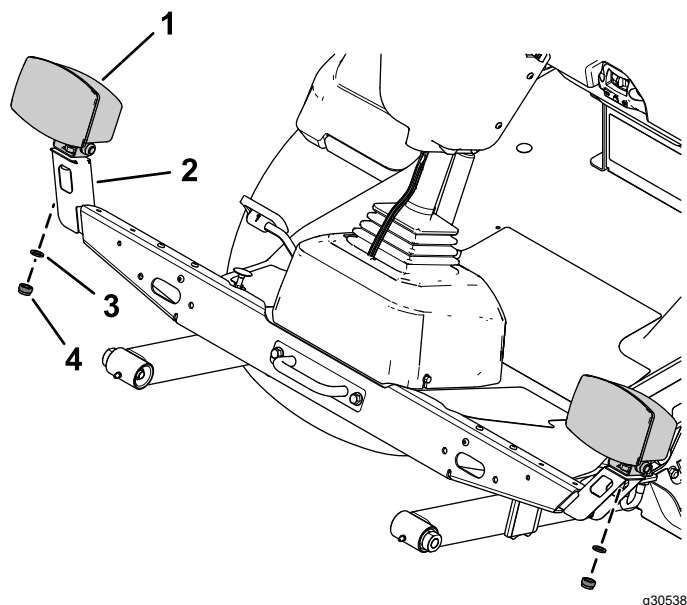

Figure 20
4. Secure the left light assembly and right light assembly to the left light mount and right light mount using the lock washer and hex nut on the light assemblies (Figure 20).